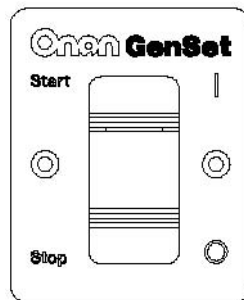

FIGURE 3. REMOTE SWITCH
- Remote switch with status indicator light only (Figure 3).